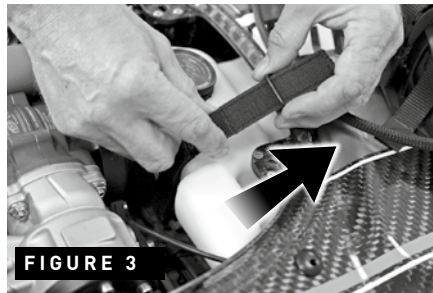

FIGURE 3
3) Undo the velcro on the tank – FIGURE 3.